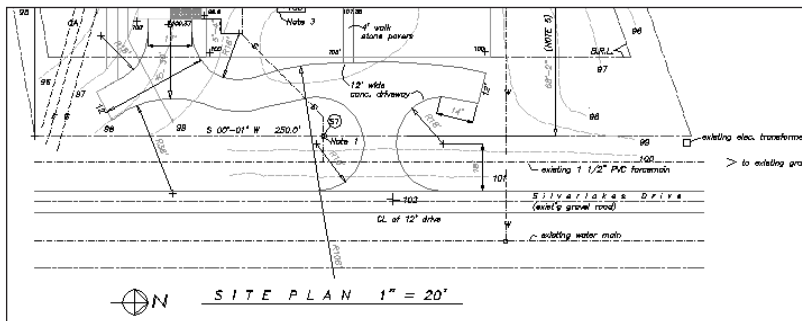

Figure 16-38: The parallel lines at the bottom of the site plan can be drawn by using a multiline.
2. Save the file as *ab16-08.dwg* in your AutoCAD Bible folder. This is a site plan, shown in Figure 16-38.